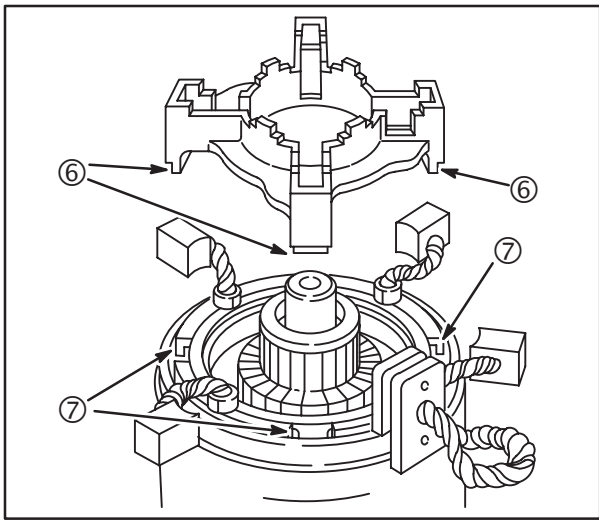

Fig. 44
3. Install brush holder, inserting tabs on brush holder (6) into starter housing slots (7), Fig. 44.